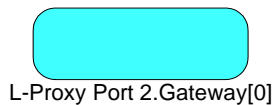

Figure 79: Empty functional block for L-Proxy Port 2.
6. An empty functional block as shown in Figure 79 appears in the drawing area.